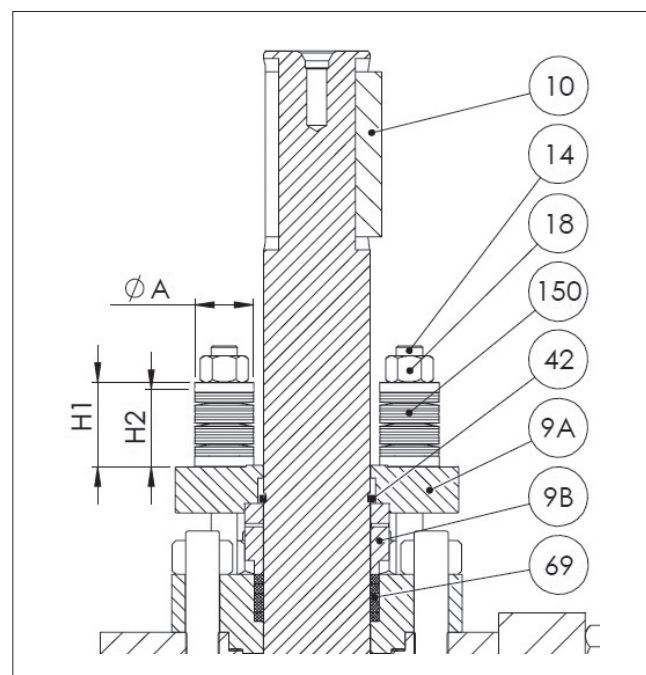

Fig. 8 Gland packing
- Remove the key (10).
- Remove the nuts (18), the disc spring sets (150), the gland (9A), retainer ring (42) and sleeve (9B).
- Remove old packing rings (69). Do not damage the surfaces of the packing ring counterbore and shaft.
- Place the new packing rings (69) over the shaft (5). The gland follower may be used for pushing the rings into the counterbore. Do not damage packing rings in the shaft keyway. See Fig. 8 for proper orientation.